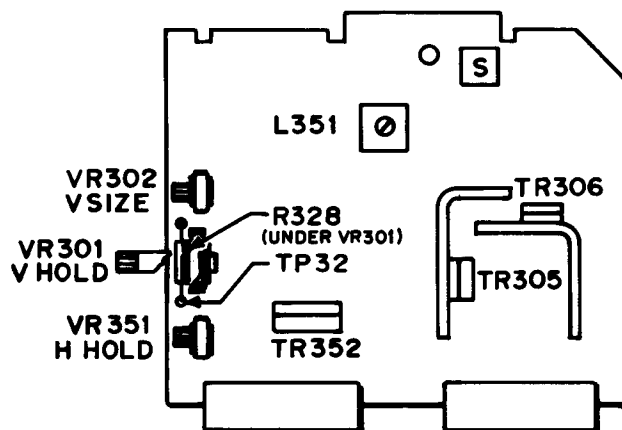

FIGURE 2
The vertical height control is a screw-driver adjustment. Location of this control is shown in Fig. 2. This control must be adjusted slowly, if necessary, until the picture or test pattern attains the correct vertical proportions.
6.0 HORIZONTAL OSC. ALIGNMENT (See Fig. 2)